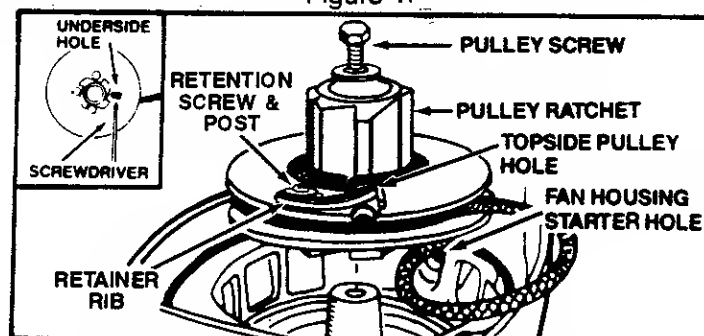

Figure 42
8. Remove the pulley screw in the center of the pulley. Figure 42.
15. Wrap rope counterclockwise around pulley ratchet and tuck loose end under rope, leaving about a 1" pigtail. Lay pigtail between the screw post and the retainer rib. Figure 42.
16. Thread retention screw and washer into the retention post. Figure 42.